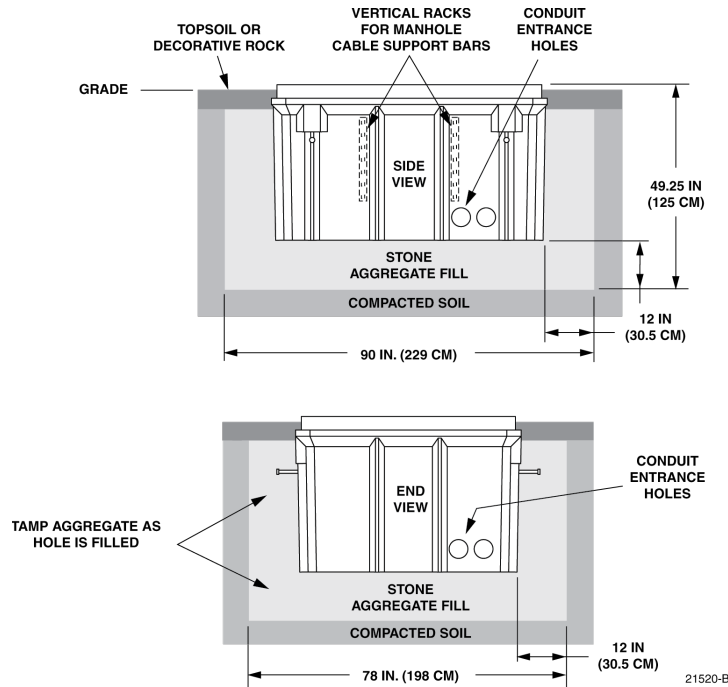

Figure 25. Large Fiberglass Mounting Sleeve (FMS-FD3J-KIT-B)
- Use knockouts on cabinet topside only for stacking two cabinets (CommScope Telco AIO Cabinet only), Figure 25.